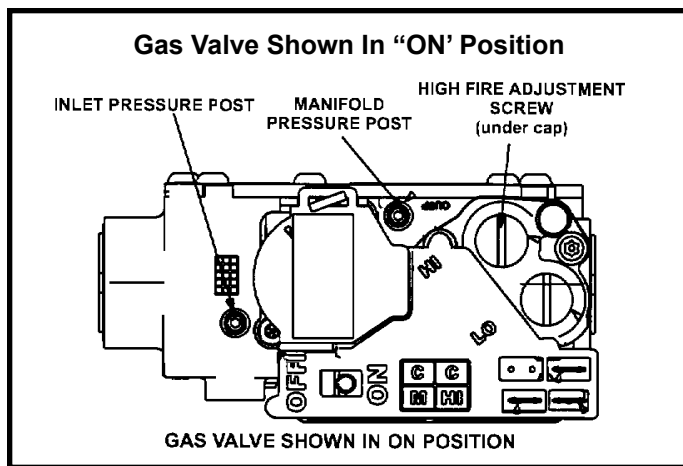

Figure 57
6. Move gas valve switch to **OFF**. See Figure 57.
8. Move gas valve switch to **ON**. See Figure 57.
1. A manifold post located on the gas valve provides access to the manifold pressure. See Figure 57. Back out the 3/32 Hex screw one turn, connect a piece of 5/16" tubing and connect to a manometer to measure manifold pressure.